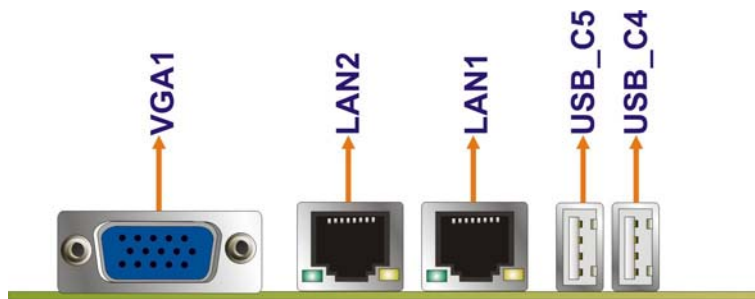

Figure 4-24: 3308490 External Peripheral Interface Connector
Figure 4-24 shows the 3308490 external peripheral interface connector (EPIC) panel. The 3308490 EPIC panel consists of the following:
- CN Location:** See Figure 4-24
CN Location: See **Figure 4-24**